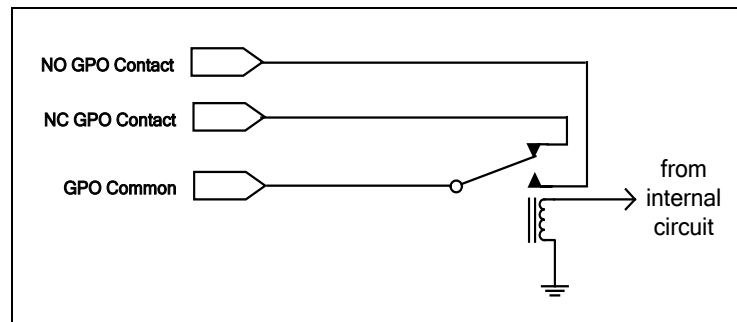

Figure 2-2: GPO Configuration
GPO's: The 3 pin terminal strip is used for the General Purpose Outputs (GPO). Pin1 and Pin2 refer to GPO1 and GPO2 respectively, whose behavior (NC/NO) can be selected by a jumper. (Refer to section 5.1 for Jumper Positions). Signal on GPO Common (C) is to be provided by the user. A minor alarm between Common and GPO1 is triggered in a state of RF exceeding threshold and major alarm between Common and GPO2 is triggered in a state of no optical power. Each GPO output is a set of normally open and normally closed relay contacts as shown in Figure 2-2.